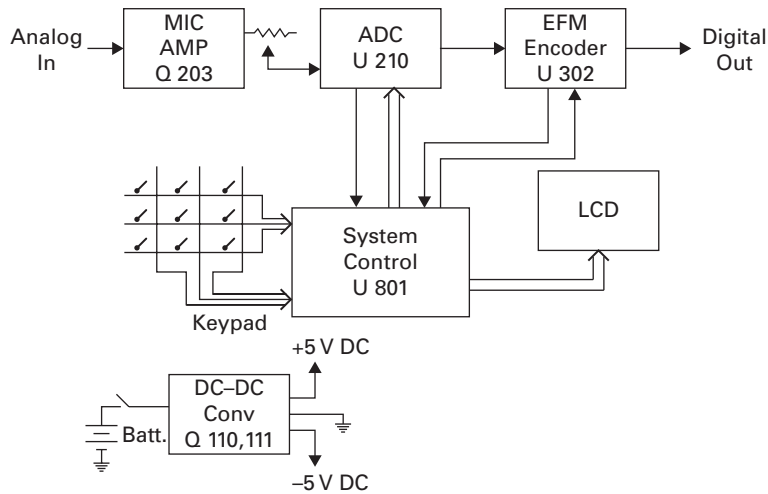

FIGURE 8-1 Block diagram
- **Block diagram** This lays out the device by the function of each section and its basic interconnections. It does not show individual components or specific connection points. It's the most general, conceptual view, analogous to a map showing cities and route numbers for major highways between them, but not street-level detail. See Figure 8-1.